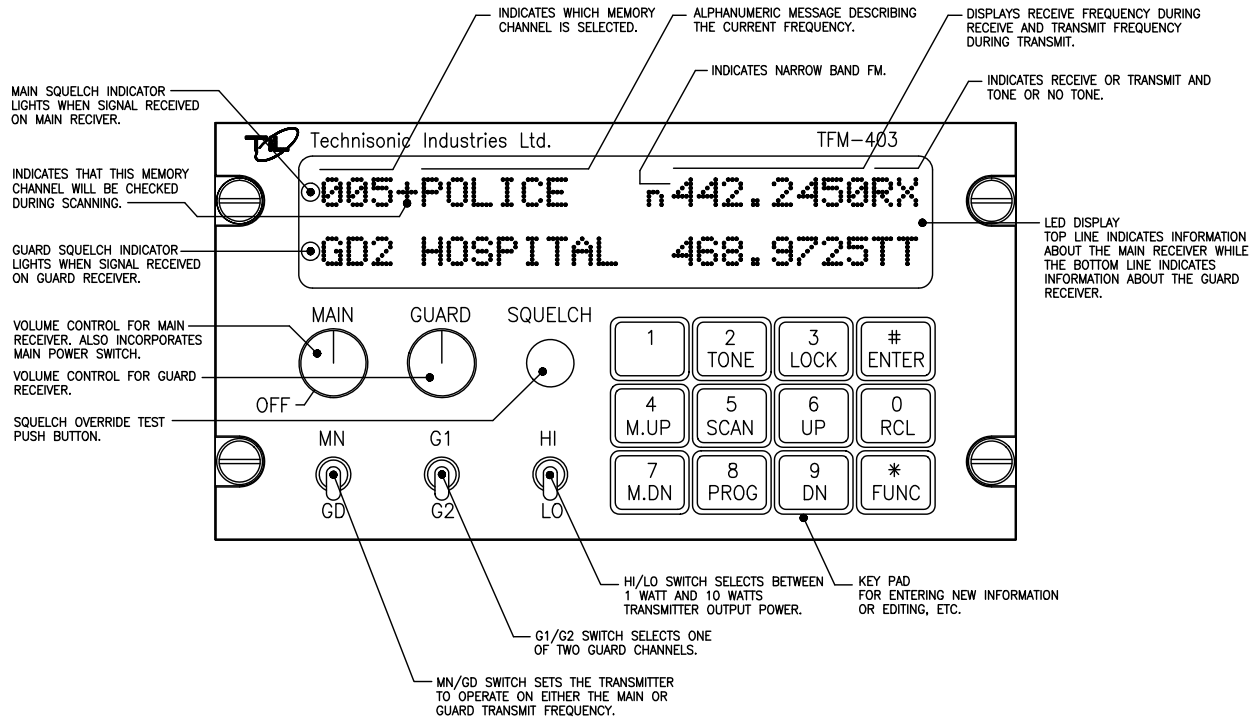

FIGURE 2-1 TFM-403 Operator's Switches and Controls
2.2 OPERATING INSTRUCTIONS (See Figure 2-1)